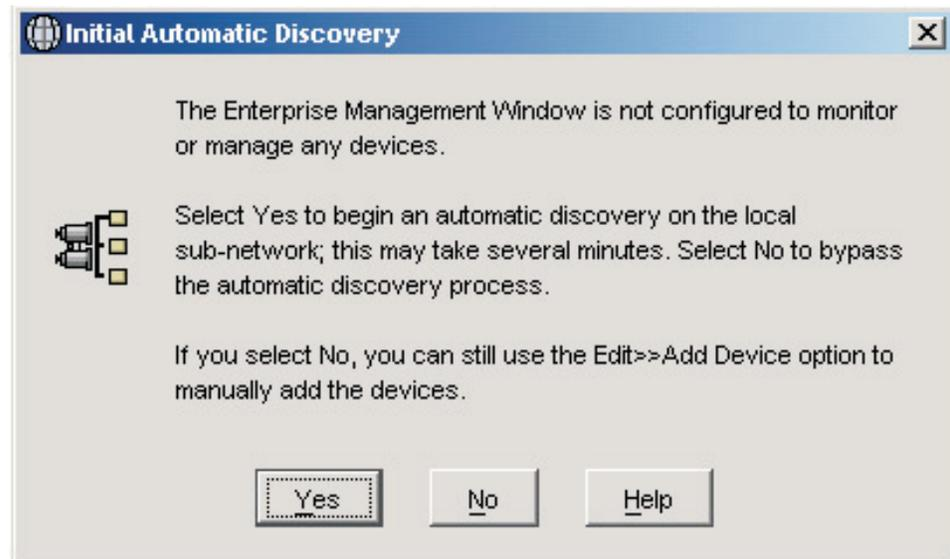

Figure 23. Confirm Initial Automatic Discovery window
2. Click **IBM DS4000 Storage Manager 10.10 Client**. The client software starts and displays the Enterprise Management window and the Confirm Initial Automatic Discovery window as illustrated in Figure 23.